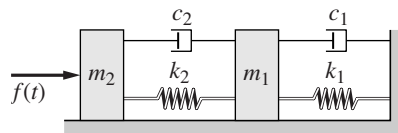

Figure P35
35. Consider the system shown in Figure P35. The equations of motion are